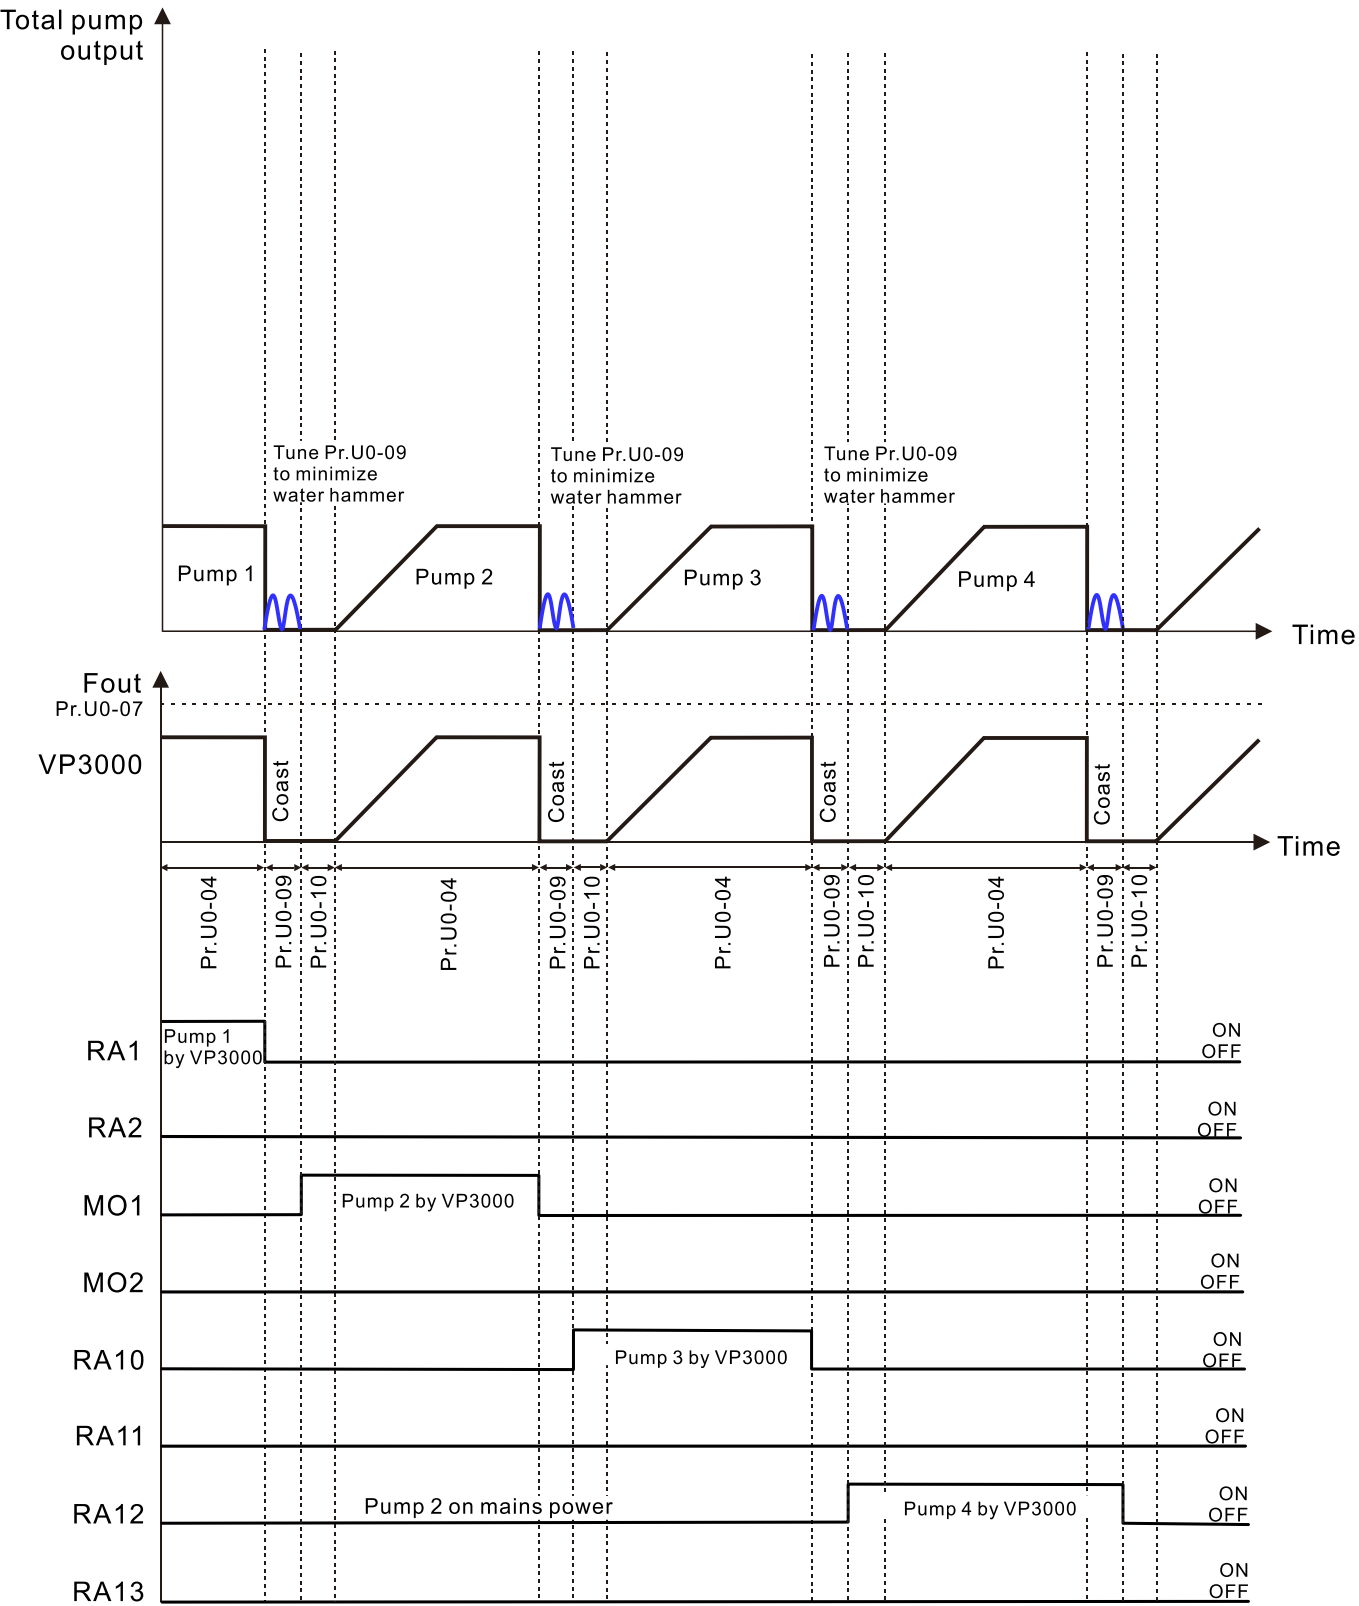

Figure 14 Situation 1 Sequence
- 📖 The system supports up to 4 sets of pumps under QTY + time circulation mode. When the system water demand only needs single pump to balance the pressure, the AC motor drive runs single master pump according to Pr.U0-04 (Circulation Time) (refer to Figure 14), and then switches the master pump to Pump 2, Pump 3 and Pump 4 in sequence.